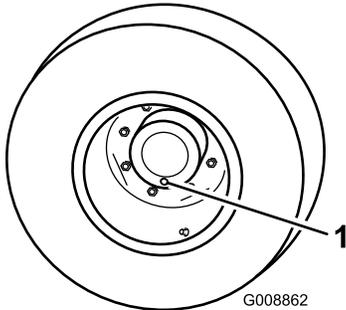

Figure 83
1. With the machine on a level surface, position a wheel so a check plug is at the lowest (6 o'clock) position (Figure 83).